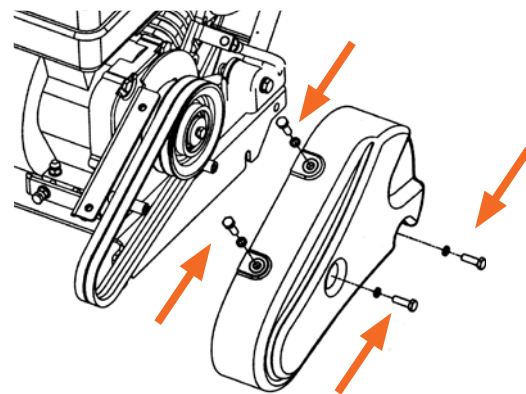

Figure 8
1. Remove the 4 hex bolts that secure the belt guard to access the v-belts (see Figure 8).
2. Remove the belt guard and v-belts (see Figures 8, 9 & 11).